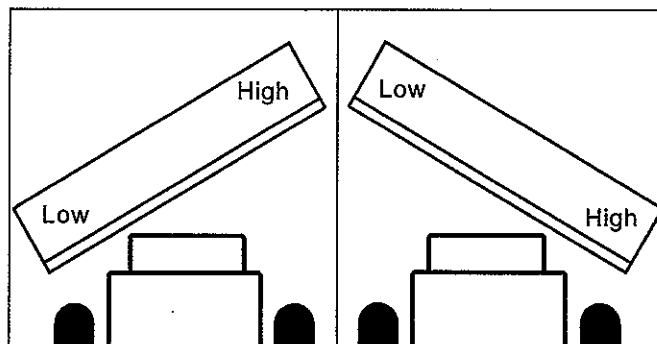

figure 6
- figure 6, loosen hardware that attaches the swing assembly to the brush head assembly; lower the right-hand side of the brush head until both sides are an equal distance above the ground. Tighten the hardware.